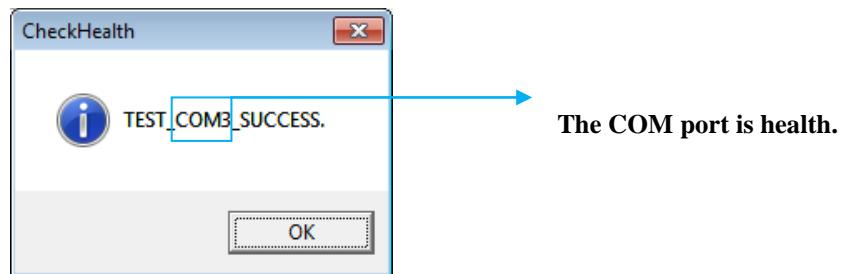

Figure 4-4..
1. When connection is health the SUCCESS message dialog will be display. See figure 4-4..